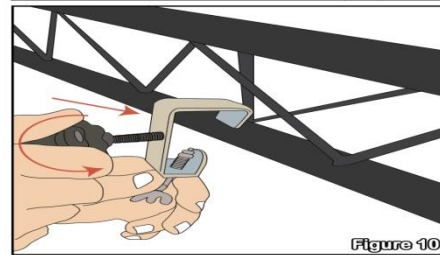

Figure 10
**Step 6** – **Figure 10 and 11** shows how to mount the c-clamps provided and how to mount light fixtures.